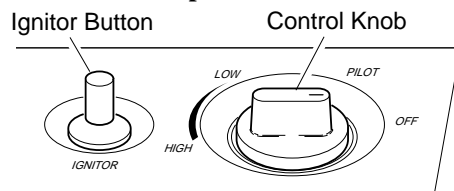

Figure 16 - Control Knob In The OFF Position
- Wait five (5) minutes to clear out any gas. Then smell for gas, including near the floor. If you smell gas, **STOP!** Follow "B" in the safety information in the first column. If you don't smell gas, go to the next step.
- Press in control knob and turn counterclockwise to the PILOT position. Keep control knob pressed in for five (5) seconds (see Figure 16).